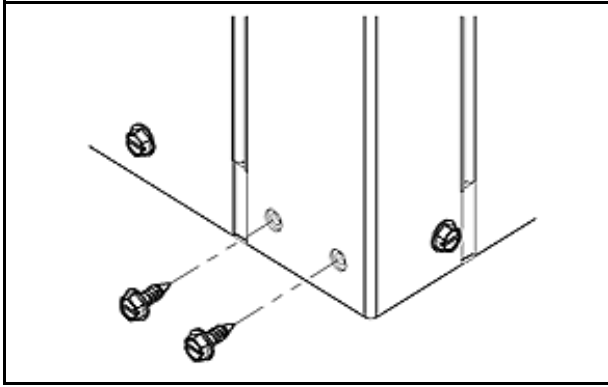

Fig. 8 Screw Locations
1. Remove and discard factory provided screws from locations where hanging brackets will be installed as shown in Fig. 8.